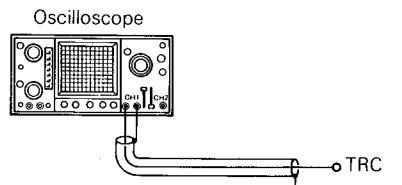

Fig. 23
- (1) Switch the power switch on and slide the disc tray out by pressing the open/close button.
- (2) Connect the oscilloscope (DC input) to TRC and GNDA. (fig. 23)
- (3) Adjust VR105 for zero volts DC $\pm 20mV$.